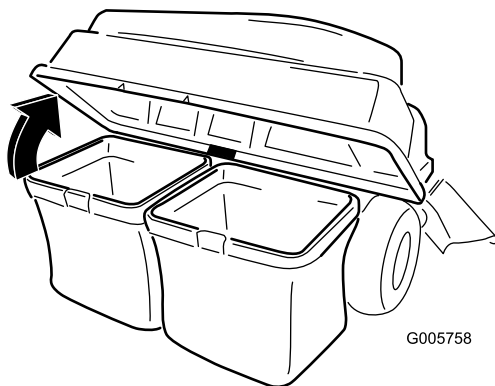

Figure 26
3. Open (raise) the bagger top (Figure 26).